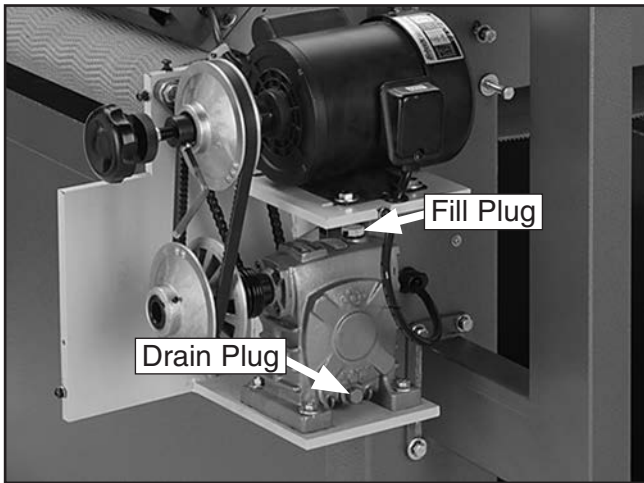

Figure 38. Lubricating gear box.
2. Remove the feed motor cover, loosen the four button head cap screws (**Figure 38**) that secure the gear box to the motor bracket, and remove the V-belt.
3. With the oil and gearbox warm, slide the gearbox out, remove the fill plug (**Figure 38**), remove the drain plug, drain the oil, and reinstall the drain plug.